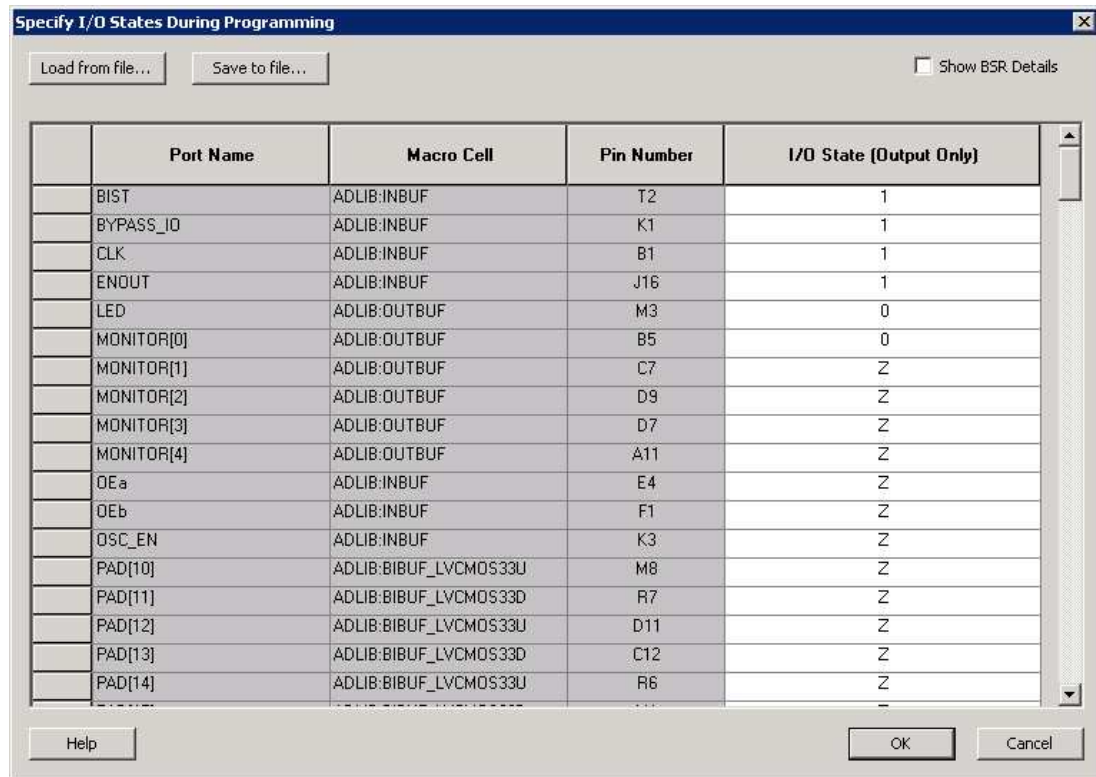

Figure 1-3 • I/O States During Programming Window
4. Sort the pins as desired by clicking any of the column headers to sort the entries by that header. Select the I/Os you wish to modify (Figure 1-3 on page 1-9).